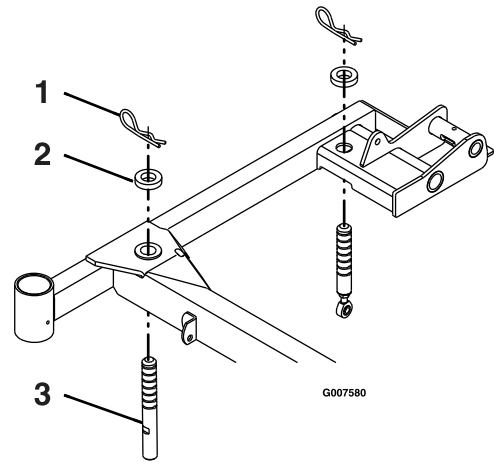

Figure 62
3. Verify all hairpin cotter pins are in the 7.62 cm (3 inch) mower deck height holes with the spacers under the hairpin cotter pins (Figure 62).
4. Shorten or lengthen each mower deck support pin to obtain blade tip height of 7.62 cm (3 inches) at the front of the deck and 8.26 cm (3 1/4 inches) at the rear of the deck (Figure 62).